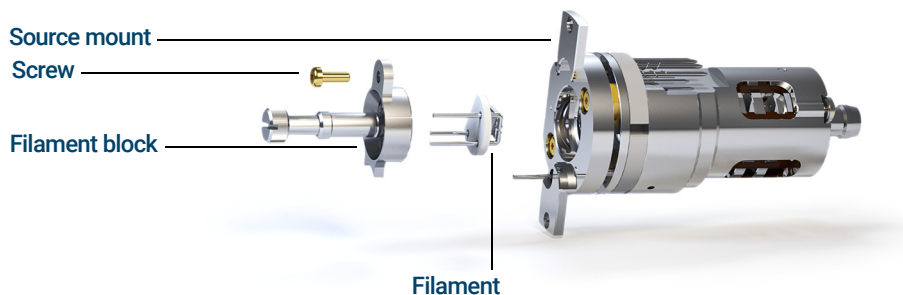

Figure 27. Replacing the filament
- 4 Remove the screw securing the filament block to the source mount. (See **Figure 27**, "Replacing the filament," on page 102.)
- 2 Insert the 3 pins on the filament through the rear of the filament block. (See **Figure 27**, “Replacing the filament,” on page 102.)